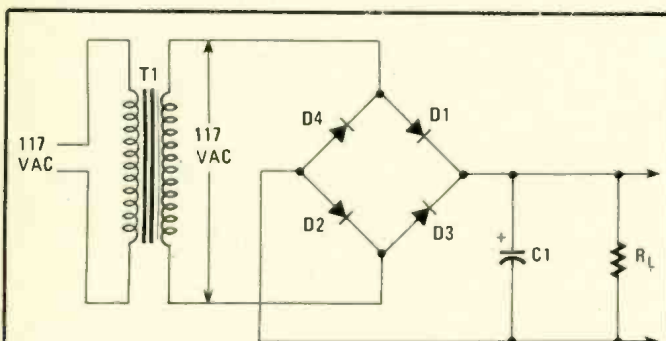

FIG. 5—CAPACITOR C1 provides ripple voltage filtering so that R_L always has a DC voltage across it. Refer to text for discussion on PIV rating of C1.
The pulsating DC produced by a bridge rectifier is not usable in most electronic circuits. To produce nearly pure DC from the rectifier output a filter must be used. The simplest form of filter is a single capacitor in parallel across the load resistor. See Fig. 5. The operation of filters will be discussed shortly, but included here, because the filter capacitor affects rectifier ratings which is our real topic. For now, let's be content with the fact that the filter capacitor (C1) is charged to the peak of the AC waveform. That means that the bridge rectifier's output voltage under no load is $1.414 \times \text{volts}_{\text{rms}}$. It comes to 165.4-volts DC from a line isolation transformer T1 delivering 117-volts AC.
Some designers fail to recognize the true reverse-bias voltage in a filtered power supply. On one half-cycle, the diode will be forward-biased and current flows. On that half-cycle, the filter capacitor (C1 in Fig. 5) charges to peak positive voltage (i.e. $1.414 \times rms$). That voltage charge remains on C1. On the next half-cycle, the AC voltage reverse-biases the rectifier to the peak negative voltage (again, $1.414 \times rms$). That potential is added to the capacitor voltage to make the actual PIV twice normal peak voltage (i.e. $2 \times 1.414 rms = 2.83 rms$; or approximately 320.8 PIV). It would be wise to use diodes in the bridge circuit rated at a standard value of 400 PIV.
The simplest form of filter is a single capacitor connected in parallel with the rectifier output and the load. Such a filter is called a *brute-force* filter. An example is shown in Fig. 5.
Normally, we will have a ripple-factor percentage in mind as a design goal, and the load resistance is set by other requirements. We will want to rearrange Eqs. (6) and (7) to find the minimum value of capacitance (C1 in Fig. 5) required to do the job. Also, we will want our result in microfarads (μF), not Farads. To accomplish those goals we can rewrite Eqs. (6) and (7) into a final form:
Equations (8) and (9) are valid for power supplies using brute force filtering as diagrammed in Fig. 5 and operating from 60 Hz AC power lines. On 50-Hz power systems, increase the value of C1 by approximately 20 percent.
The filtering action has the effect of raising the average output voltage. The voltage produced by Fig. 5 will be as follows: